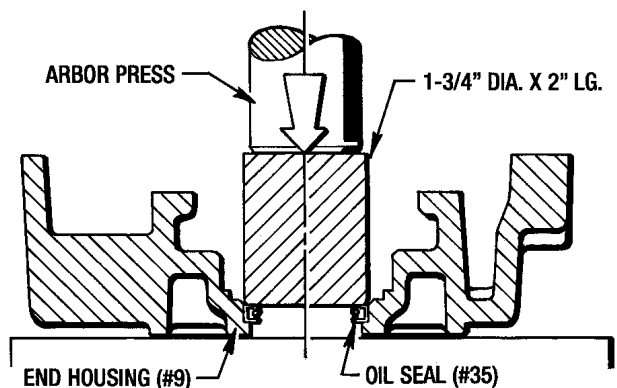

Figure 9.1 - Installing Oil Seals
3. Press the Oil Seal (#31) into the Housing (#8) with an arbor press until it bottoms out on the retaining shoulder, as shown in *Figure 9.1*.
4. Press the Oil Seal (#35) into the Housing (#9) with an arbor press until it bottoms out on the retaining shoulder, as shown in *Figure 9.1*.